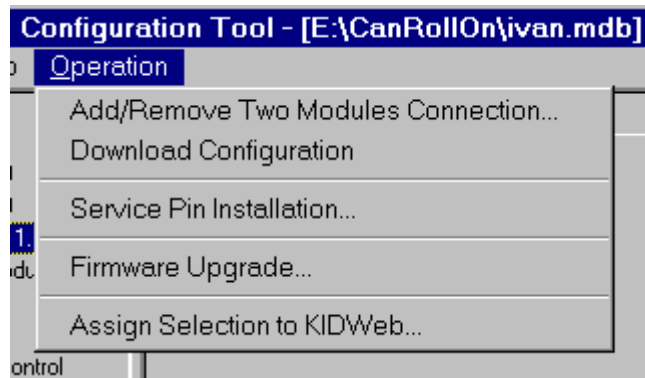

Fig. 5.10
- Click on **Operation** menu to open the drop-down list shown in Fig. 5.10 that contains the **Service Pin Installation...** menu item.
- Call one of the drop-down dialog boxes shown in Fig. 5.10 and Fig. 5.11.